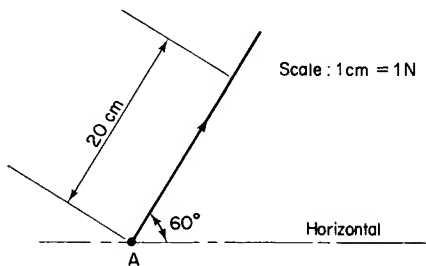

Fig. 2.11 The force of Fig. 2.10 represented graphically
The procedure is as follows (Fig. 2.11):
- (1) Faintly draw a horizontal line and on it mark the point A which is the point of application of the force.
- (2) From A draw a faint line inclined at 60° to the horizontal.
- (3) Choose a suitable scale to represent the magnitude of the force. In Fig. 2.11 a scale of $1 \text{ cm} = 1 \text{ N}$ has been chosen. Hence 20 N will be represented by a length of 20 cm . From A mark off a length of 20 cm along the inclined line.
- (4) Place an arrow on the line to indicate the sense of the force.